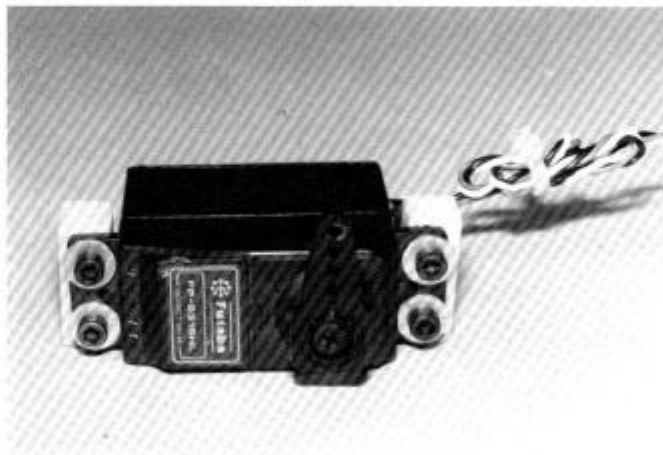

FIG. 139
FIGS. 139, 140, 141, & 142—We're ready to install the radio. If you haven't purchased a radio yet, a good choice would be one of the 2-channel steering wheel systems made by Futaba or Airtronics. However, many other radios, including stick models, can be used in the car. The higher torque, medium-sized servos (like the S31, S131 or S28) are preferred for steering, but all three sizes, small, medium and large, can be made to work. The photos that follow show the installation of a Futaba system. In these instructions, servo sizes (the width of the case between the mounting ears but not including the ears) are grouped as followed:
chassis mounting hole, which will be on the bottom of the mount. You'll notice that the chassis has two sets of servo mounting holes—a short set and a long set. With two different sets and by rotating the servo mounts 90 degrees, you will be able to mount most servos. Put the rubber grommets on the servo and attach the servo to the mounts with four Allen screws and washers, as shown in Fig. 139.
STEP 6—When your wheels turn in the correct position, take your hands off the steering wheel. Is the servo arm on the steering servo centered? Refer to Fig. 139. If it's not centered, you'll have to remove the servo arm screw and center the arm.